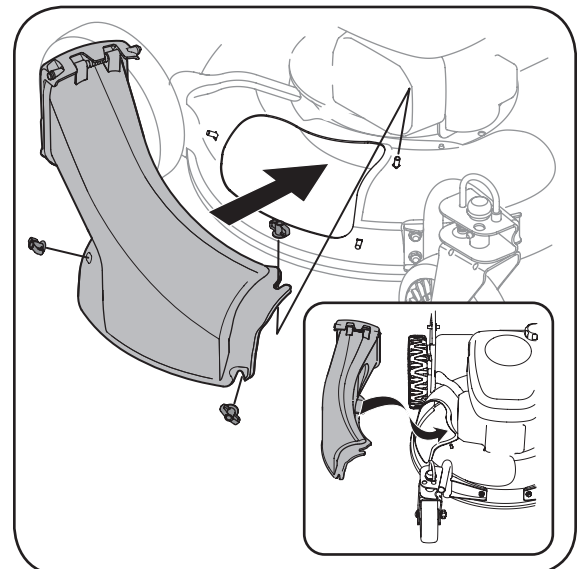

Figure 3-4: Use wing nuts to secure discharge chute to deck.
- b. Replace with grass bag adapter, while making sure the front lip of adapter goes under the edge of the deck. Secure with wing nuts previously removed. See Figure 3-4.